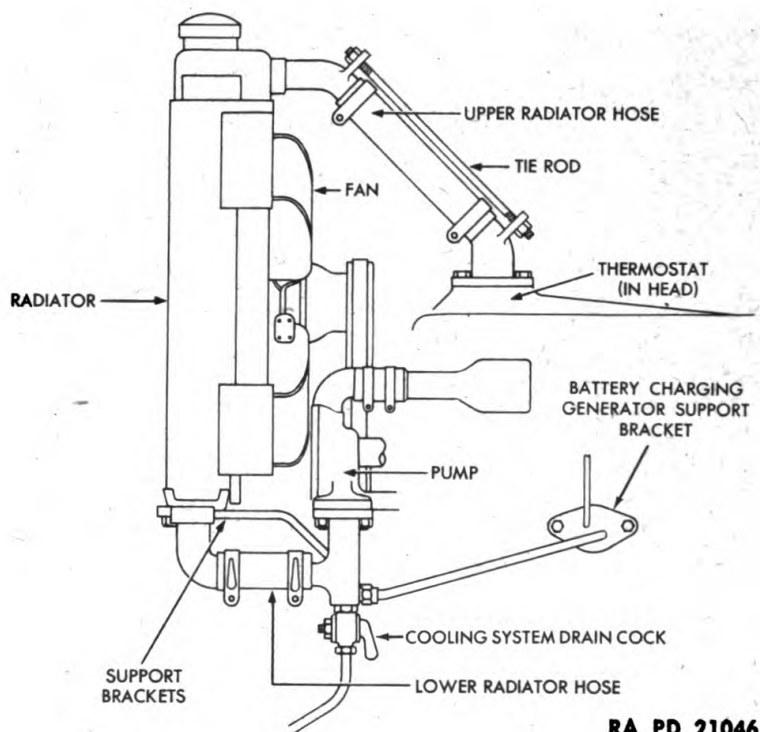

Figure 10 - Cooling System
35. DESCRIPTION (fig. 10).
(1) Run the engine until the temperature is within operating range. Stop the engine, remove the radiator cap, and drain the system by operating the drain cock. Do not depend upon the small drain cock, it may be clogged by the scale and sediment. If necessary, use a wire to keep open any drain hole which tends to become clogged, or better yet, remove the drain cock and the lower hose (fig. 10), and wash out thoroughly. The battery-charging generator support bracket which covers an opening into the lower part of the cylinder jacket (fig. 10) may also be removed to assure a good job of cleaning. Coolants containing ethylene glycol must be saved or discarded as outlined in War Department Circular No. 137, V. dated 16 June 1943.
(2) Allow the engine to cool. Replace the drain cock and close. Replace the lower hose and battery-charging generator support bracket. If the hose and gasket under the bracket are not in good condition replace before continuing cleaning operation. Start the engine at idling speed, and start immediately to pour water slowly into the radiator until it is nearly full. Add the COMPOUND, cleaning (Federal stock No. 51-C-1568-500), in the proportion of 1 container of cleaner to every 4 gallons of cooling system capacity, then fill the